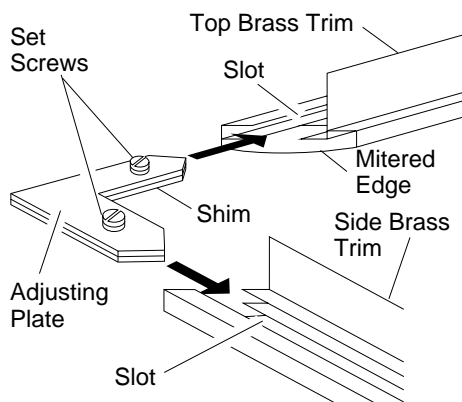

Figure 14 - Assembling Brass Trim
3. Align shim under adjusting plate as shown in Figure 14, page 11.
4. Slide one end of adjusting plate/shim in slot on mitered edge of top brass trim (see Figure 14, page 11).
5. Slide other end of adjusting plate/shim in slot on mitered edge of side brass trim (see Figure 14, page 11).